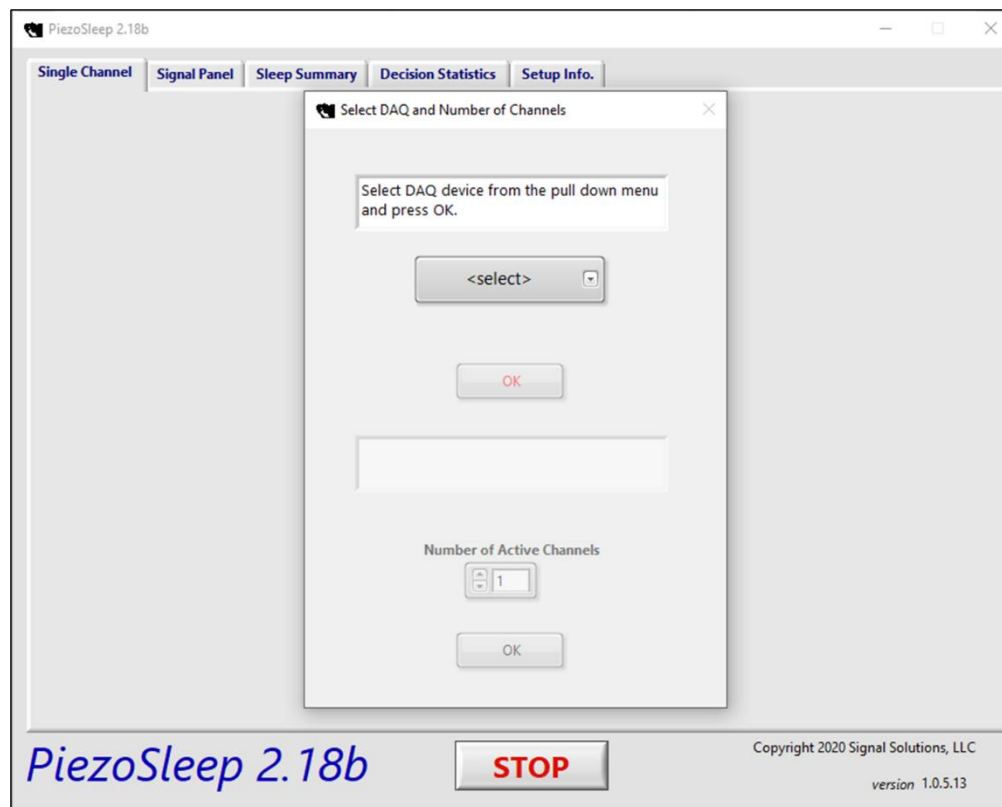

Figure 1. Starting windows for *PiezoSleep* program. From the dialog window, select the DAQs being used for the recording session.
- 1) Launch *PiezoSleep* either from the desktop shortcut or from the start menu or from the location it was saved/installed on the hard drive. The windows shown in Fig. 1 appear after launching the program.